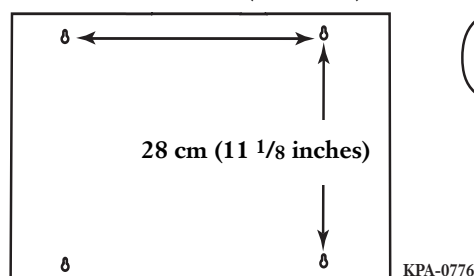

Figure 3 — Mounting Hole Locations
Step 1: Open the front door of the unit using the can wrench. Using the housing as a template (Figure 3), ensure the unit is square and mark the locations for the mounting hardware. Install appropriate anchors (not provided) to the surface to which the housing will be attached. Use shims (not provided) on uneven surfaces to ensure the housing is square and to prevent warpage.